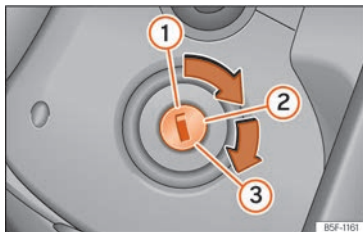

**Fig. 230** Ignition key positions.
Key positions » **Fig. 230**
- Turn the key to position »» Fig. 230 ②.
- Keep turning the key to position »» Fig. 230 ③ without stepping on the accelerator.
- Once the engine starts, release the key. When it is released, the key returns to position ②.
- *Vehicles with ignition locks:* Turn the key to position »» Fig. 230 ①.